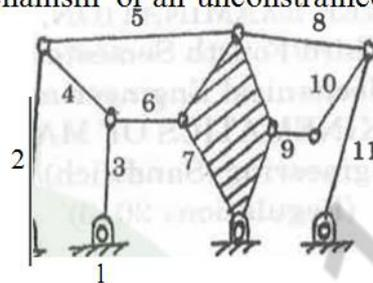

Fig. 11 (a)
20. a) i) State and brief the Kutzbach criterion for planar mechanisms and using this criterion, determine the arrangement shown in Fig. 11 (a) as a structure or a constrained mechanism or an unconstrained mechanism. (6)